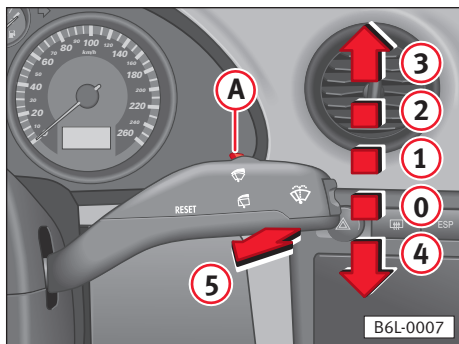

Fig. 64
Position ④ of the lever for the windscreen wipers is used to individually adjust the sensitivity of the rain sensor ⇒ fig. 64.